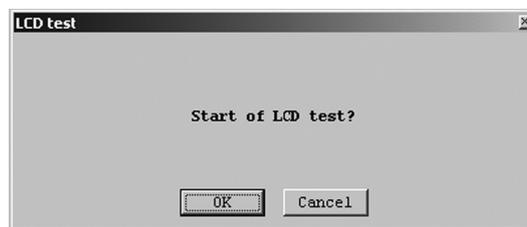

Fig.106
- ③ Click the "OK" button to display a message box (Fig. 106).